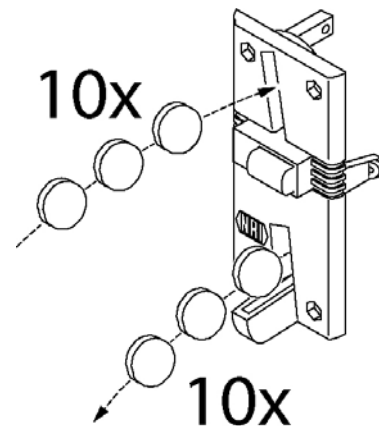

Fig. 22
2. Insert at least 10 tokens (fig. 22) (not 10x the same coin). After the 10 coins have been inserted the blocker coil pulls tight (internally).